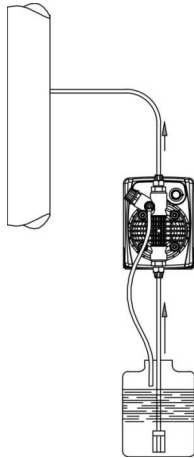
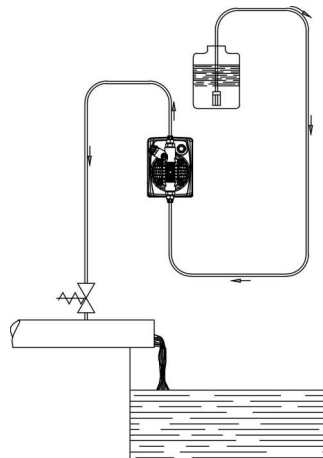

Fig. 5
Fig. 6
- c.- Install the pump in any way as shown in Fig. 5. If installed above the chemical tank, it is important that the pump height should not exceed the rated suction height, over the level of the liquid. When the process plant in which the pump is installed is operating at atmospheric pressure (no back pressure) and the chemical tank is situated above the plant (Fig. 6), the condition of the injection valve should be checked at regular intervals, because excessive wear and tear could cause additive to drip into the plant even when the pump is shut down. If the problem persists, install a properly calibrate counter-pressure valve (C) between injection point and the valve. In the case of liquids that generate aggressive vapours, do not install the pump above the storage tank unless the latter is hermetically sealed.